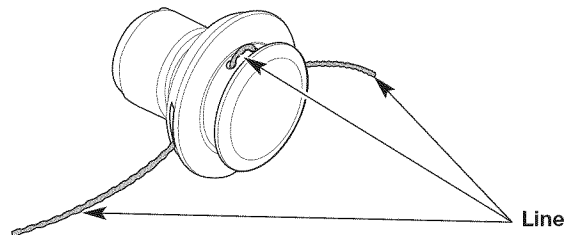

Fig. 13
4. Pull the ends of the line until the line is tight against the cutting head. Make sure the ends of the line are of equal length (Fig. 13).